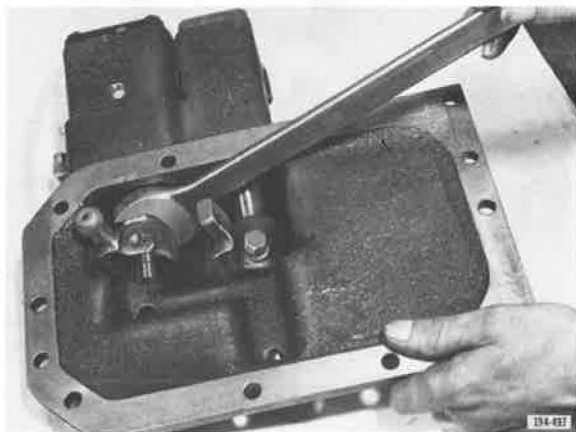

Figure 164. Loosening Locknut
18. Loosen Lo/Hi shifter locknut. See Figure 164.